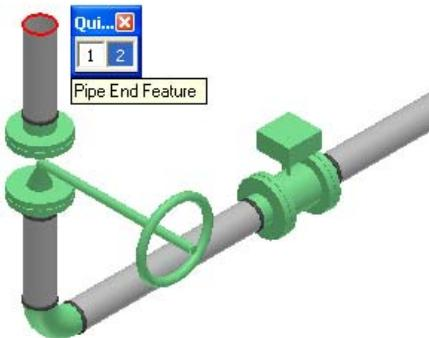

Figure 9: Pipe End Feature
2. Select the **Pipe End Feature** of the pipeline **P-204**, as shown in Figure 9. You can use the quick pick tool to help you locate the end feature of the pipe.